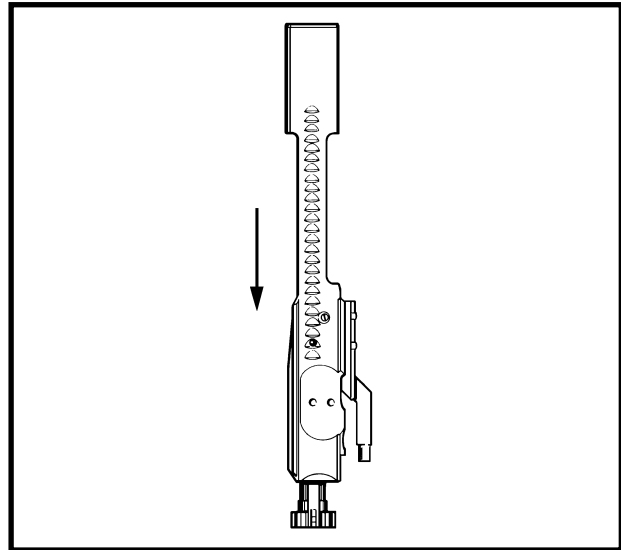

Figure 4-6 Bolt Ring Wear Test
- f. Hold the bolt carrier with the bolt facing downward. See Figure 4-6.